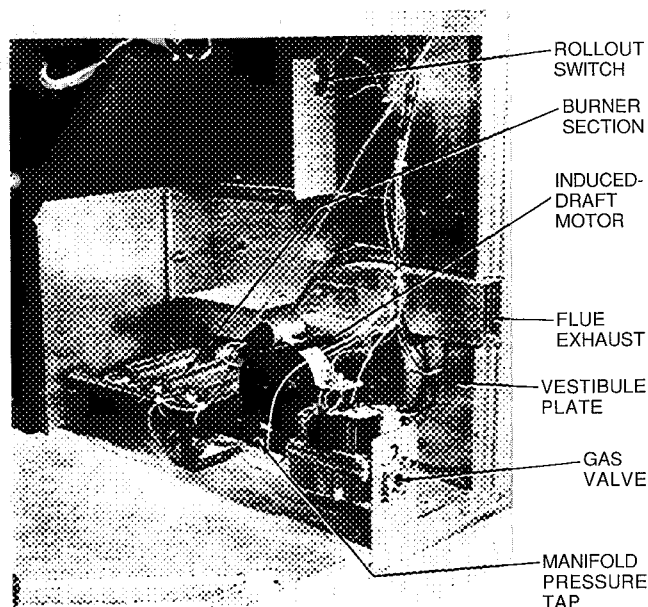

Fig. 38 — Burner Section Details
2. Remove the 6 screws that attach induced-draft motor housing to vestibule plate (Fig. 38).
REMOVAL AND REPLACEMENT OF GAS TRAIN (Fig. 38 and 39)